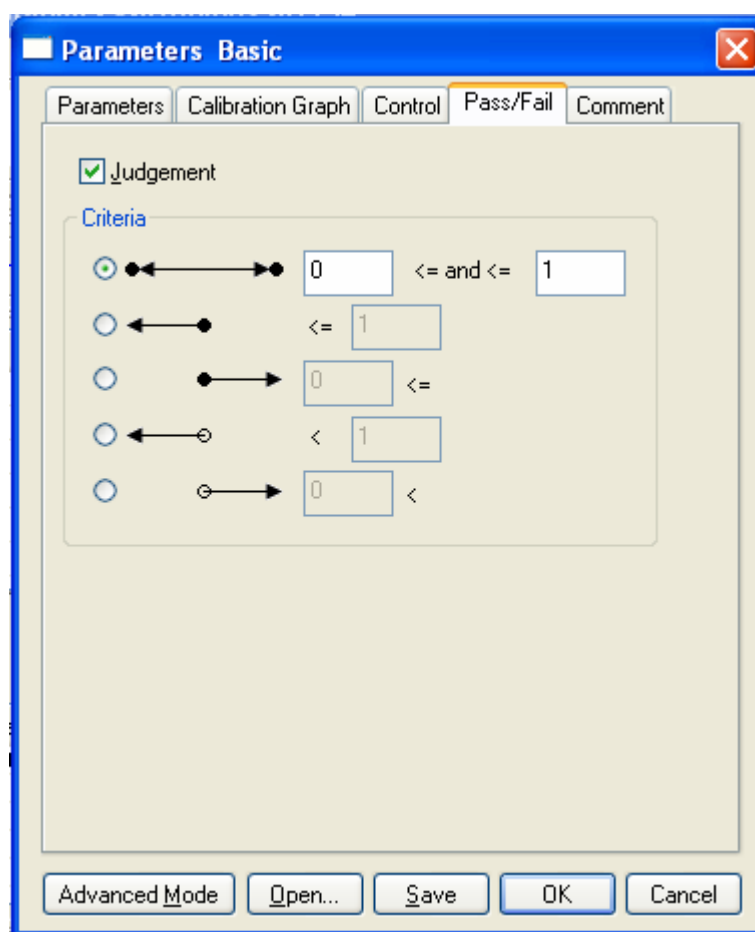

Figure 5.7 [Parameters Basic] Dialog, [Pass/Fail] tab
- (4) Click on the [Pass/Fail] tab (see Fig. 5.7).